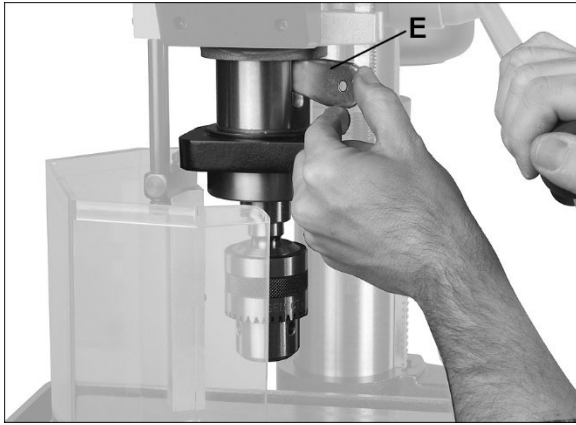

Figure 6-3: drift key insertion
3. Place a piece of scrap wood on table, and lower quill (Figure 6-3) using feed handles.
5. Insert drift key (E, Figure 6-3) into aligned slots and tap lightly. The chuck and arbor assembly should fall from the spindle.